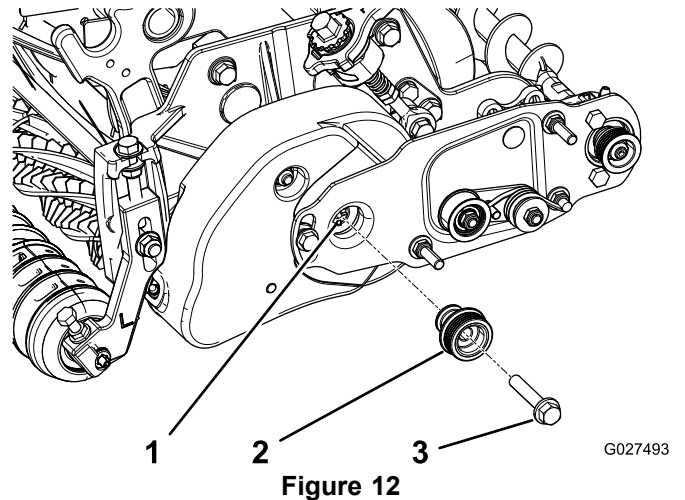

Figure 12
- Install the drive pulley onto the driveshaft (Figure 12).
- Secure the pulley to the driveshaft with a flange-head bolt (3/8 x 2 inches); refer to Figure 12.